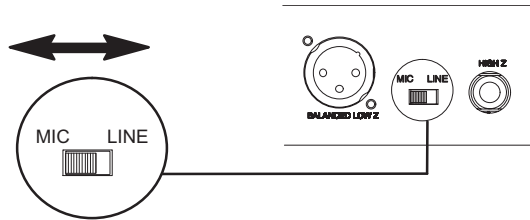

FIGURE 7
- If the receiver XLR output is used, make sure the MIC/LINE switch setting matches the input requirements of the mixer or amplifier, as shown in Figure 7. The Mic/Line switch does not affect the output of the unbalanced 1/4 inch phone jack.